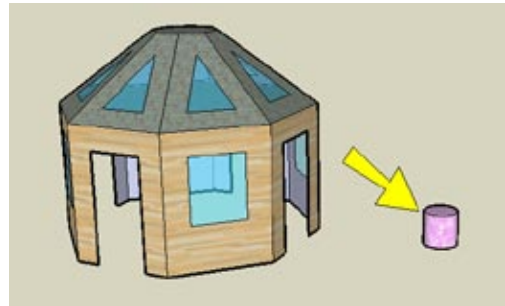

Figure 1-61
1. Start with the model you completed in Recipe 1.4. Instead of making an actual planter with a plant in it, or taking the trouble to find a component for it, use a simplified cylinder instead. Somewhere outside the building, draw a circle and pull it up to represent a planter (Figure 1-61). Because it will be copied, make this cylinder a component. (If you don't have this model, you can download my Circular Internal Array model from the 3D Warehouse.)